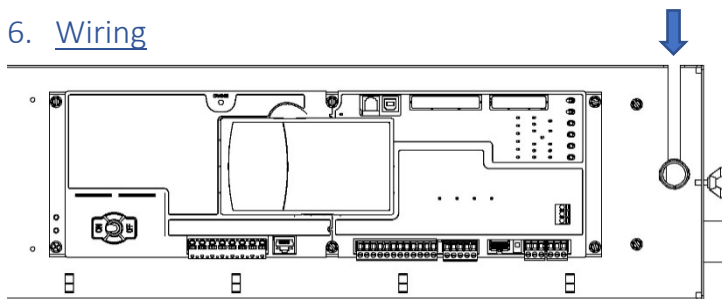
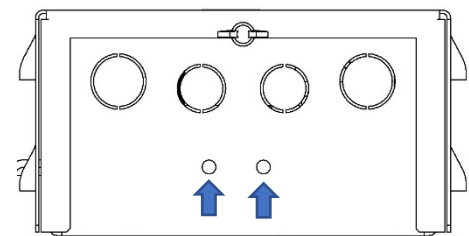

Figure 18 – Top view of Delta control box without cover
Figure 19 – Side view of control box
Once all the assemblies are mounted, we can start to wire the control box, the blue arrow in Figure 18 depicts a slot where you can slide the motor encoder cable into the control box. Figure 19 points out the two clearance holes that can be used to insert a screwdriver to tighten the encoder cable to the drive from the outside of the control box. The retrofit kit includes 3 pieces of 5 feet long wiring cables for the interlock/gate switch and two (5) feet long steel conduit for the wire. Note, the encoder cable is the ONLY cable that does not run through the conduit.